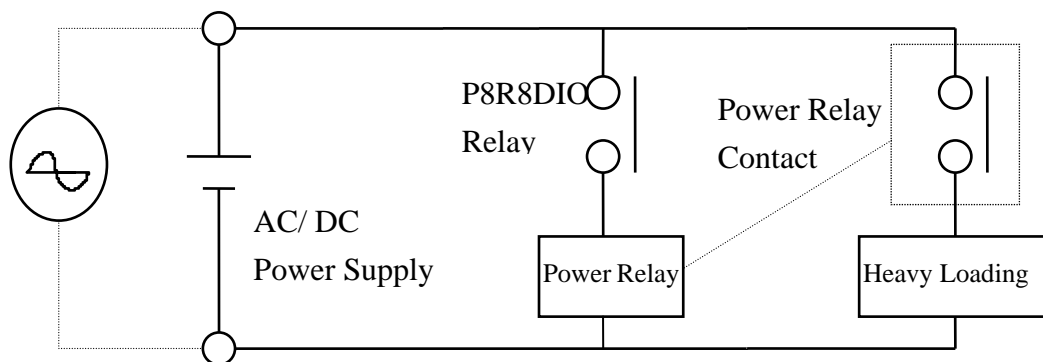

Figure 3-2.
- **Heavy Loading Application (>0.3 A). Refer to Figure 3-2.**